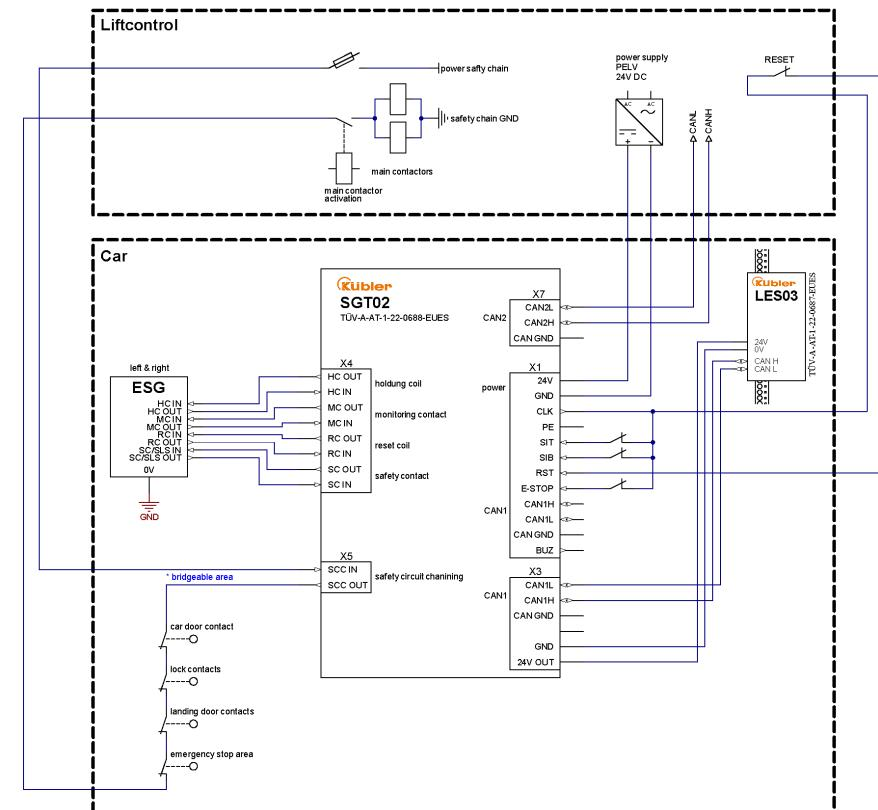

Fig. 2: Example with reset of the electromechanical safety gear (ESG).
- For variants with resetting device (8.SGT02.x1xx.xxxx), connect both connectors X4 (HC, MC, RC and SC) according to Figure 2 [▶ 64].